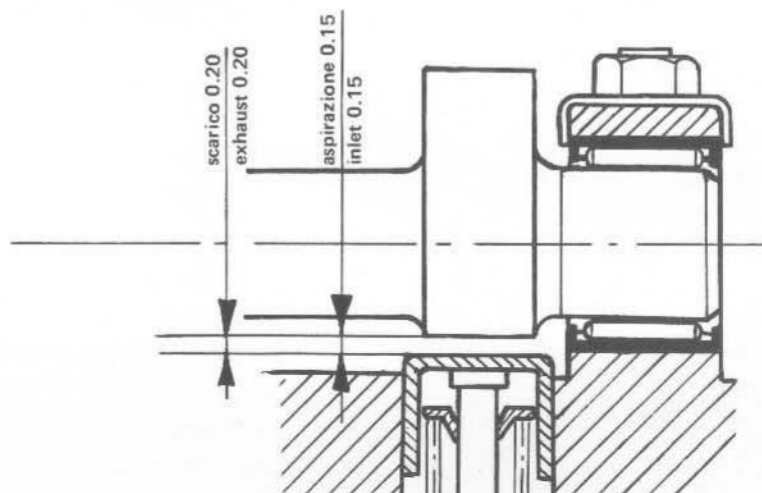

Fig. 25
Il gioco prescritto è mm 0,15 all'aspirazione e mm 0,20 allo scarico (Fig. 25).
- 6) Using a feeler gauge measure the valve clearance of the cylinder with the piston at TDC. Turn the flywheel until the other piston is at TDC and repeat valve clearance measurement with the other cylinder. The feeler gauge blade should slide between cam and tappet with light friction (Fig. 24). To measure the clearance, use a feeler gauge with 0.03 - 0.04 - 0.05 - 0.06 0.10 mm blades. If it is necessary these blades can be combined with those of a normal feeler gauge (0.05 - 0.10 - 0.15 - 0.20 - 0.25). The specified clearance is 0.15 mm for the inlet and 0.20 mm for the exhaust valves (Fig. 25).